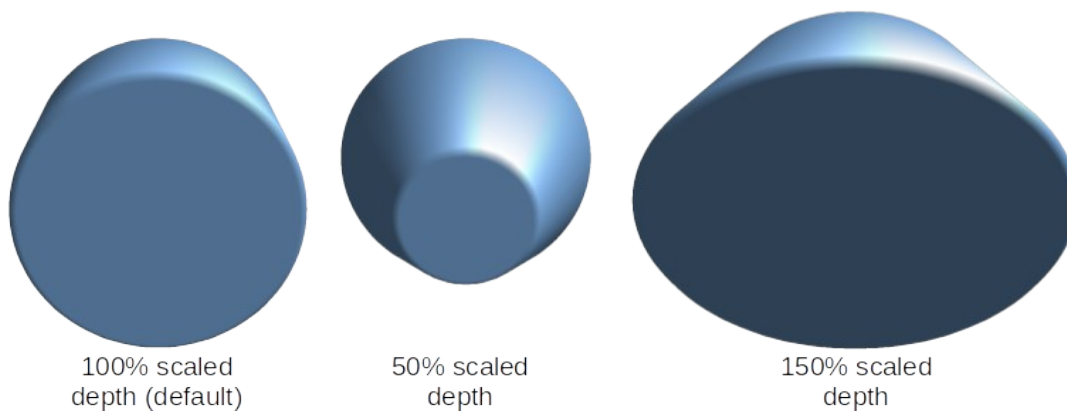

Figure 14: Example of changing scaled depth
- *Scaled depth* – enter the amount required to increase or decrease the frontal area of a selected 3D object. Figure 14 shows an example where the scaled depth has been increased to 150% and then decreased to 50%. The default setting for scaled depth is 100%.